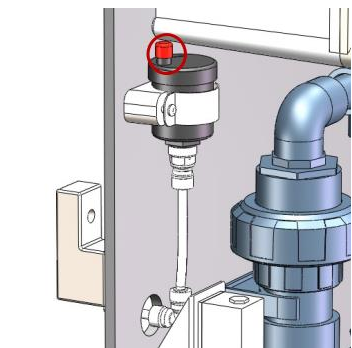

Figure. 12
12. Installation is complete. OPEN THE EXHAUST PORT by turning the red cover at the top of the exhaust valve to the right, PRIOR TO ALLOWING WATER FLOW TO PANEL. As shown in Figure.12